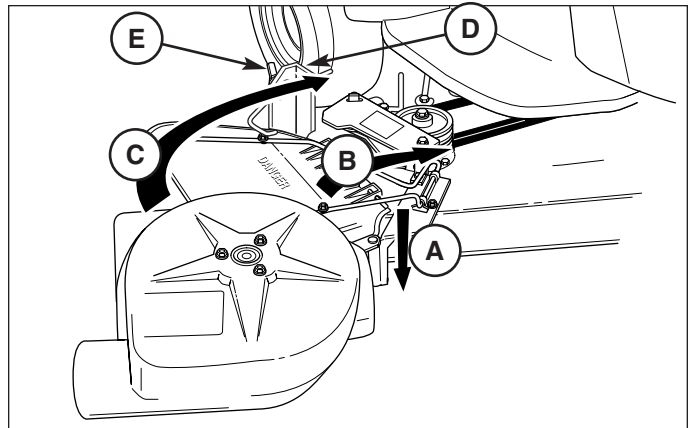

Figure 17. Install Turbo Blower
1. Install the turbo unit by sliding the turbo pivot rod into the pivot bracket at the front edge of the mower deck (A, Figure 17).
2. Tilt the deflector (B) UP.
3. Rotate the turbo unit (C) into position on the discharge of the mower deck, and “latch” the slot in the turbo housing over and onto the anchor bracket at (D). Tighten the wing nut (E) to secure.